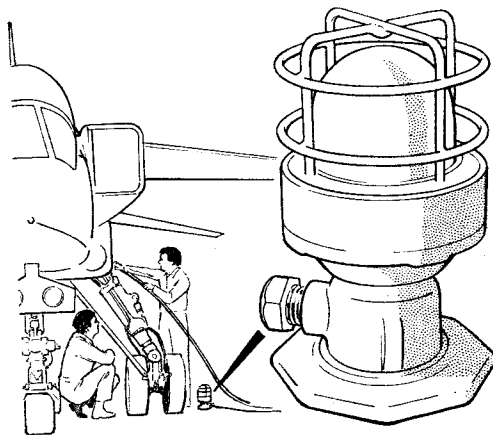

Fig 17 Using flameproof lamps
38. **Flameproof lamps.** A very important point is for you to recognize the difference between flameproof and non-flameproof lamps and understand the limitations of their use. Flameproof lamps are essential when lights are needed near fuel installations, when working on fuel systems, or in fact at any-time when flammable gases exist, may exist, or are suspected. Flameproof lamps are all sealed units and it is essential that all the seals and insulating compounds are maintained in good condition with any distorted or damaged parts replaced before use. Fig 17 shows the use of flameproof lighting equipment.